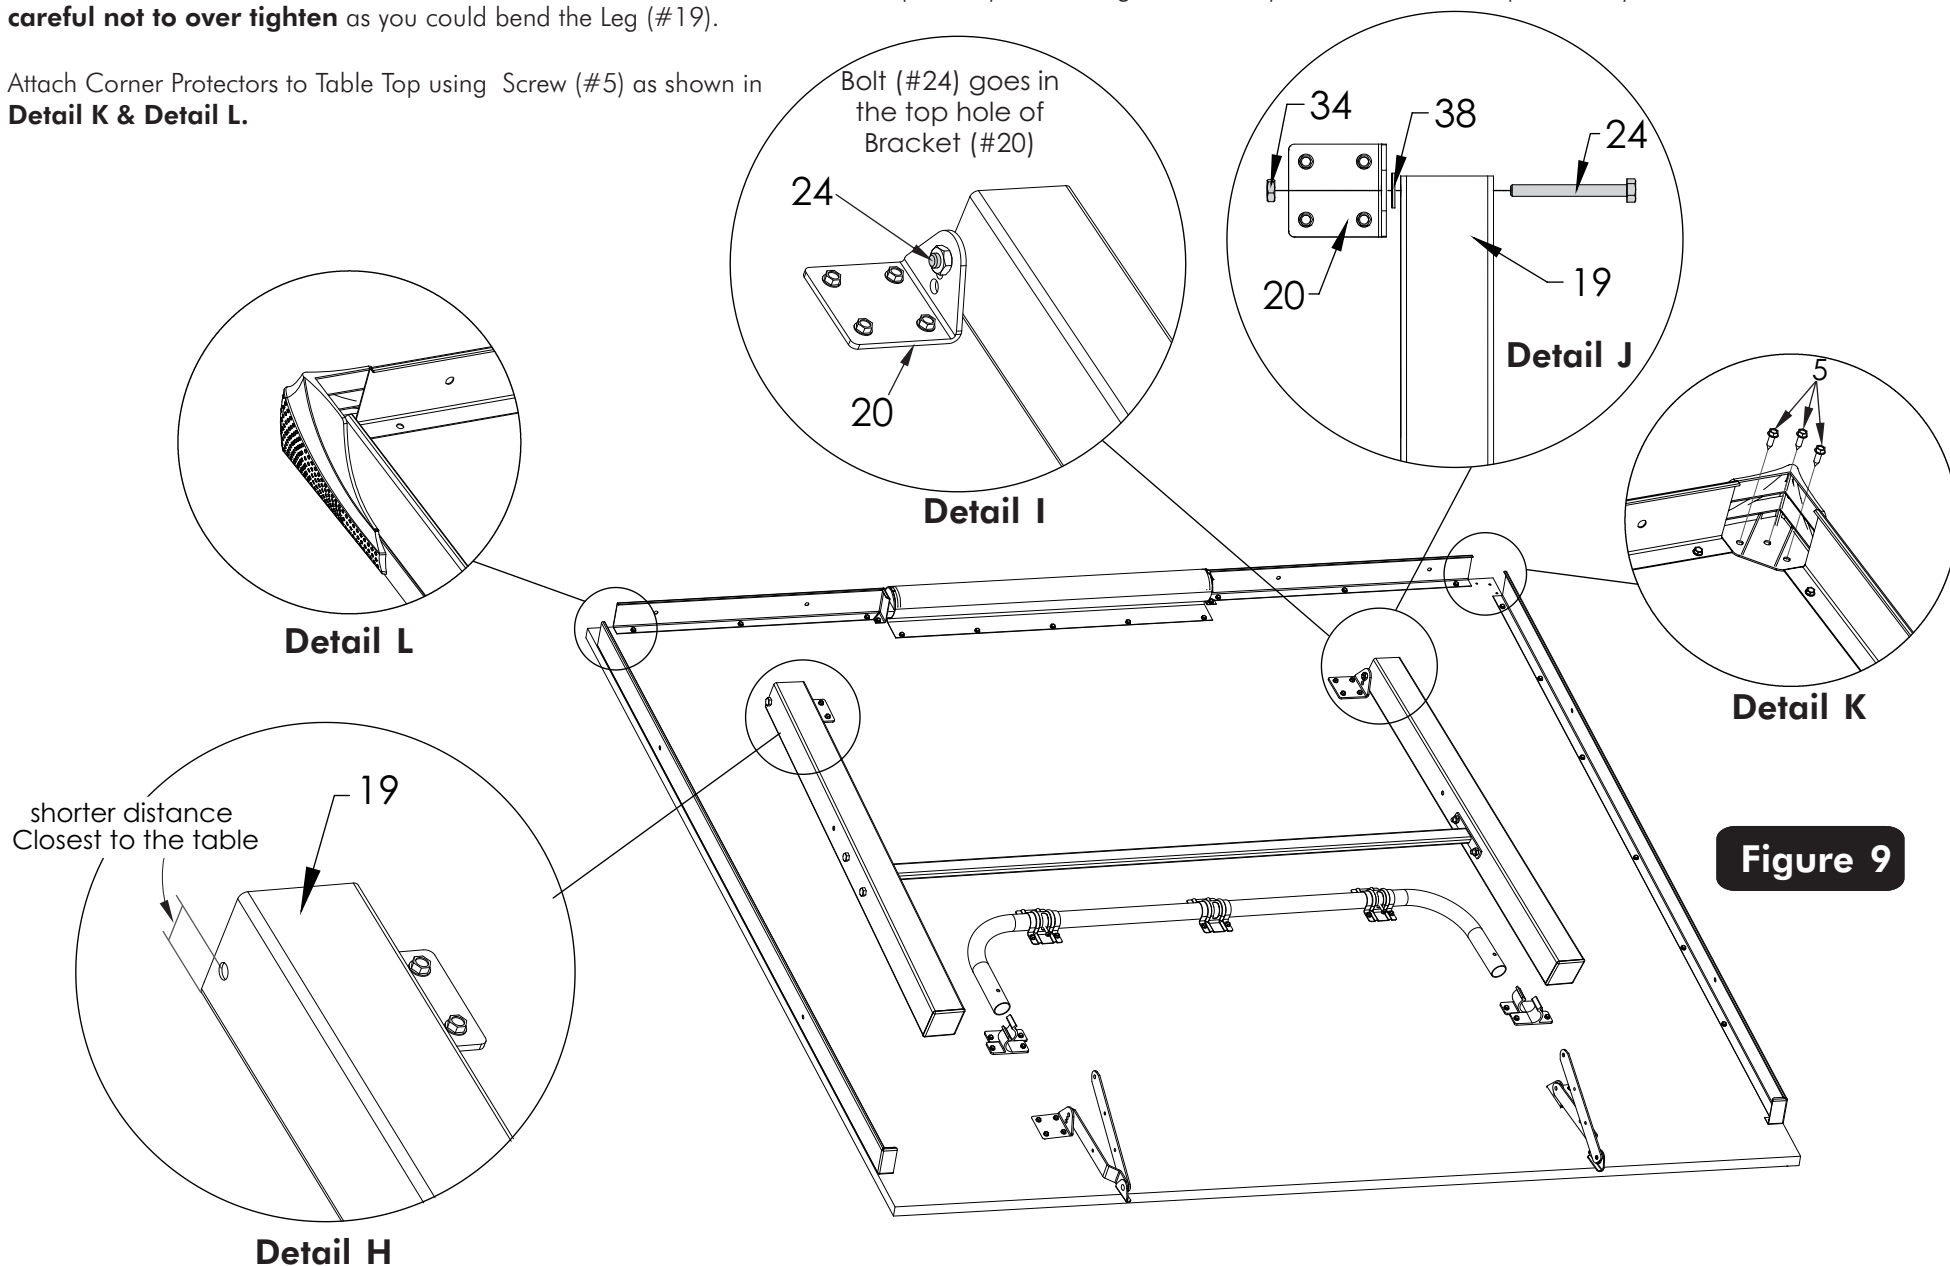

Figure 9
16. Place Leg Assembly (from previous step) on table top. **Be sure that the offset holes in (#19) legs are closest to the table.** See **Figure 9 & Detail H.**